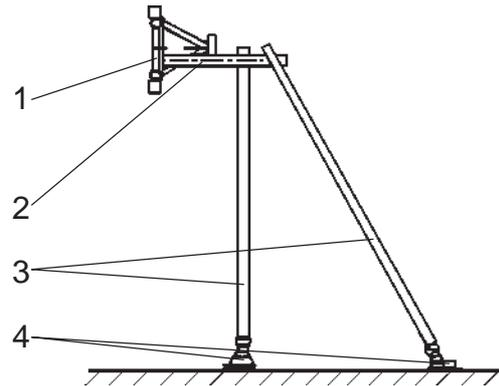

Fig. 6-09 Anchoring to the façade
4. Fasten the mast adapter (fig.6-09, 2) on the mast (fig.6-09, 1).
5. Mount the wall plates (fig. 6-09, 4) to the façade.
6. Fasten the horizontal anchor tubes (fig. 6-09, 3) between the mast adapters and wall plates.